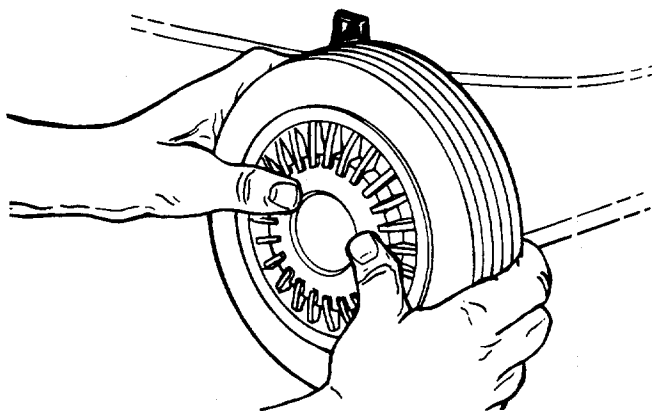

FIGURE 6.—Optional Hub Caps
2. If your mower is equipped with 2" wide tires, place hub caps in position against the inner hub of the wheel. Press firmly around the center portion of hub cap in a circular motion, similar to installing a lid on a round, plastic container. See figure 6. The hub caps are flexible and will snap over the 3 1/2" diameter wheel hubs.